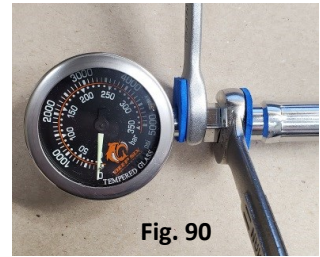

Fig. 90
1. Remove the SPG from any console boot. Soaking the console in hot soapy water may facilitate this. Using two 9/16" open end wrenches, loosen the gauge from the nut, and remove the gauge (Fig. 90).